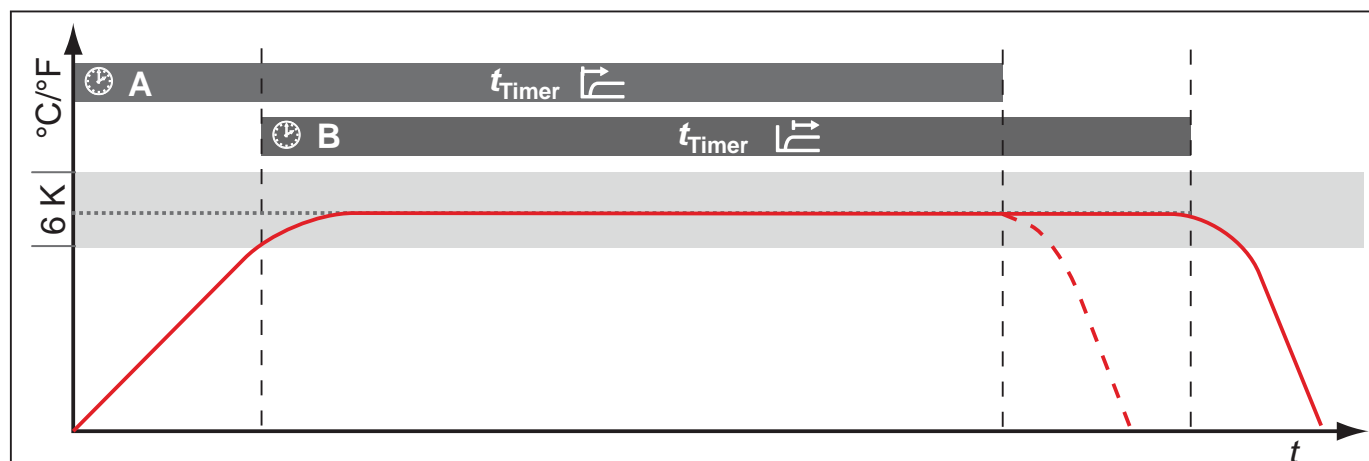

Fig. 23 Timer Mode
Here, you can choose whether the digital backwards counter with target time setting (see page 27, timer) should run setpoint-dependent or not – this determines whether the timer should not start until a tolerance band of  $\pm 3$  K around the set temperature is reached (Fig. 23, B) or whether it should start right after activation (A).